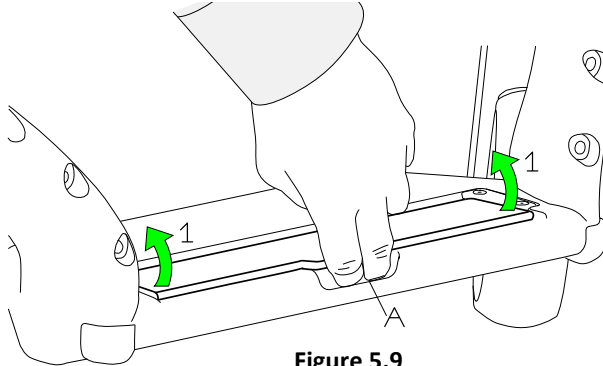

Figure 5.9
To increase the foot angle beyond the horizontal (raising toes) [Fig. 5.9]:
- Using the lip under the foot angle adjuster (Fig 5.9, A), prise the flap up into desired position (Fig 5.9, 1).